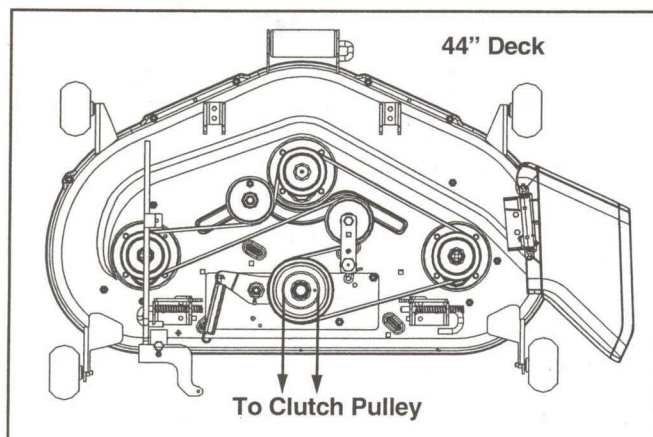
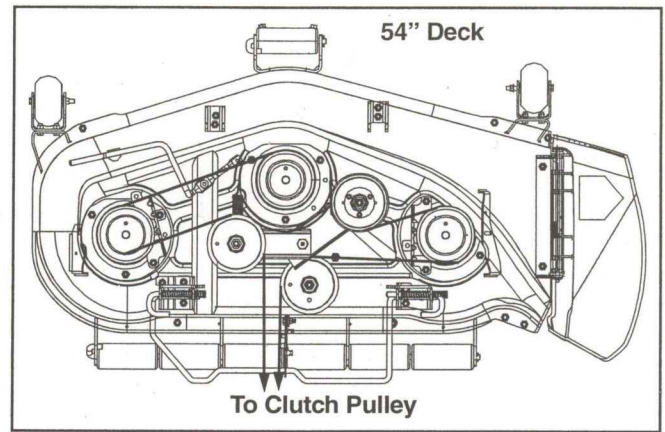

Figure 26
Figure 27
- Install and route the new belt according to the routing diagram. See Figure 26 or Figure 27.